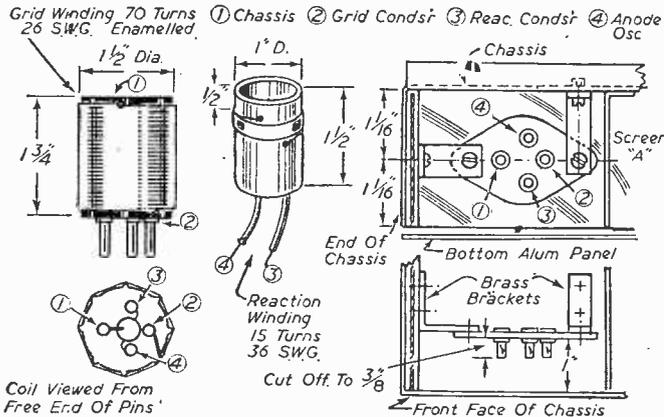

Fig. 8.—Coil winding details and coil mount.
The coil was wound on a standard 8-ribbed coil former as used for short-wave coils, although its original length of 2 3/4 in. was shortened to 1 3/4 in., as shown in Fig. 8. Although the author used 26 s.w.g. enamelled wire for the grid winding, close winding this, it is possible that a silk-covered wire of lighter gauge would be quite as efficient. Experiments are worth while to get the best coil possible. Seventy turns of the s.w.g. will be found to fill the 1 3/4 in. space available. The reaction coil should fit comfortably inside the grid coil, and with the com-
**R.M.S. Voltage—Peak Voltage:** With the slide inserted correctly set 1 on B against 2 on A, and now against the R.M.S. voltage on C read the peak voltage on D. By using the extensions in red at the end of the scales the peak voltage can be seen for every R.M.S. value except those starting with the figure 8.